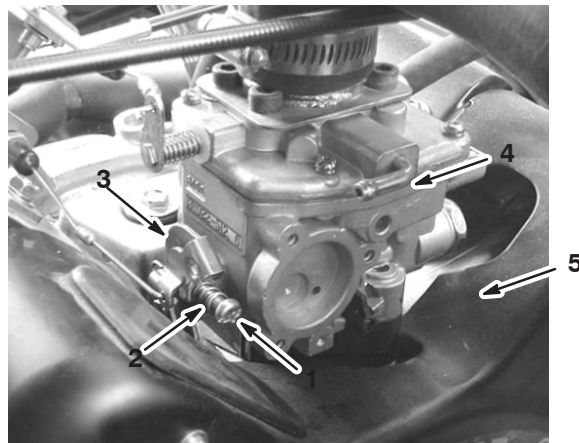

Figure 12
10. Install the idle screw and spring to the carburetor assembly at the throttle lever as shown in figure 12.